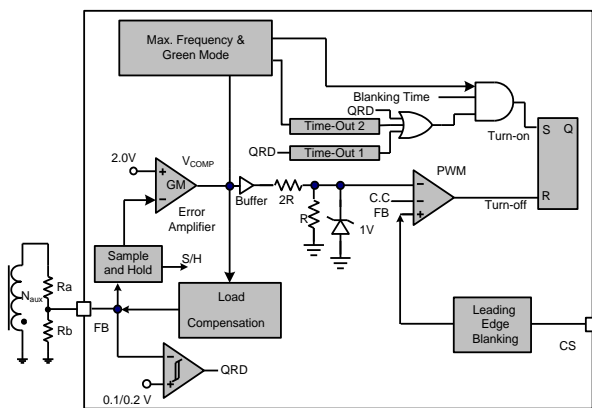

Fig. 20
The LD7513K employs quasi-resonant (QR) switching scheme to switch valley-mode either in CV or CC operation. This will greatly reduce the switching loss and the ratio dv/dt in the entire operating range for the power supply. Fig. 20 shows the typical QR detection block. The QR detection block will detect auxiliary winding signal to drive BJT as FB pin voltage drops to 0.1V. The QR comparator will not activate if FB pin voltage remains above 0.2V.